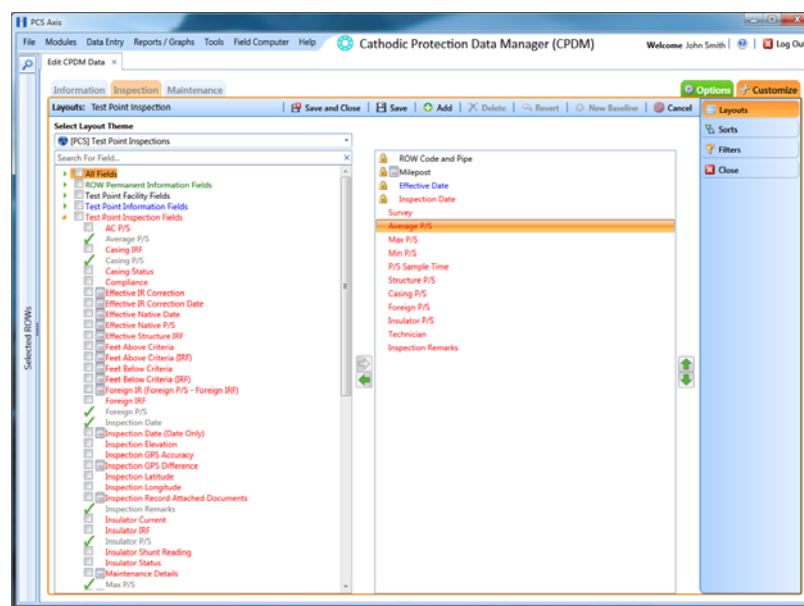

Figure 7-16. Layouts
- 4 Double-click Test Point Inspection Fields in the left pane of the window to view a list of fields available for selection (Figure 7-16, page 300).